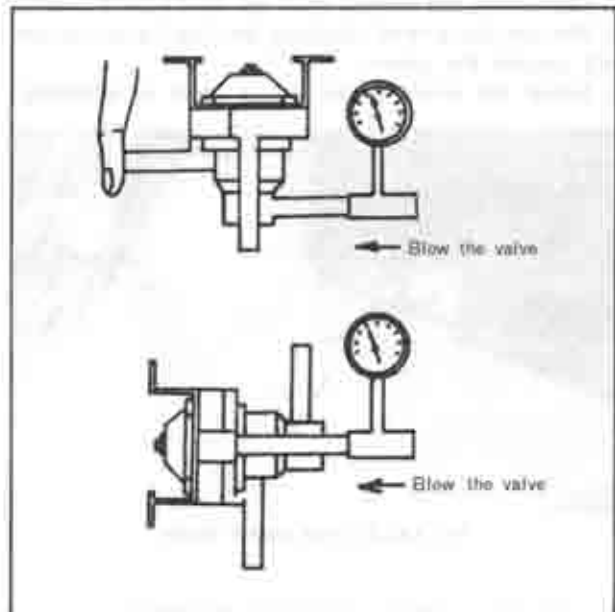

Fig. 1A-37 Checking check and cut valve
2. As shown in Fig. 1A-37, connect a pressure gauge to the passage to the fuel tank and blind the other end by finger.